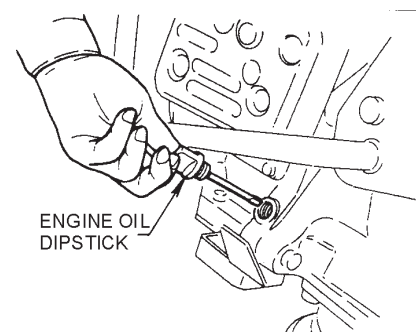

Figure 4. Engine Oil Dipstick
3. Check the engine oil level (Figure 4) and if the oil level is low, it should be refilled. Use the proper motor oil as suggested in Table 3 .